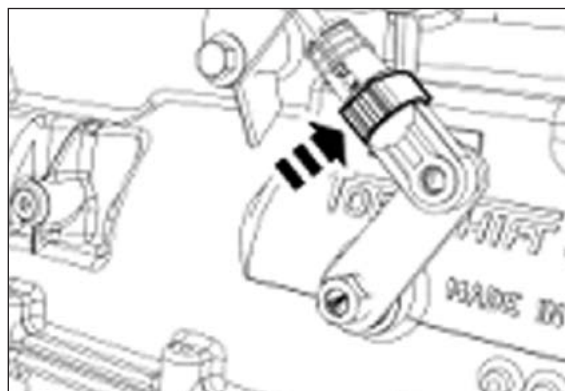

Figure 90
8. Slide the adjuster tab in place to lock the selector lever cable (**Fig. 90**).